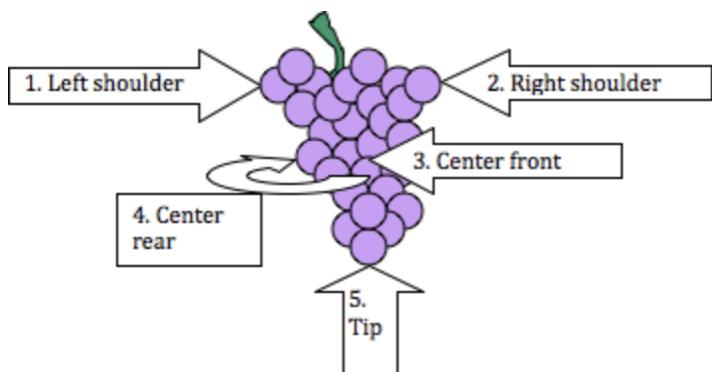

Figure 12: Sampling locations on cluster
4. At each vine, collect five berries from each of the three flagged clusters. Clusters generally develop from top to bottom so collect berries from the approximate positions indicated in Figure 12. Try to close or avert your eyes and sample by feel to avoid being visually drawn to the most developed grapes. Healthy grapes should feel firm and juicy to the touch. A very squishy or disintegrating grape is diseased and should be avoided. Do your best to pull or twist the grape from the rachis while keeping it relatively intact (it will store better until measurement)- but sometimes, on tightly packed clusters, it's impossible to extract 15 whole berries without breaking them.